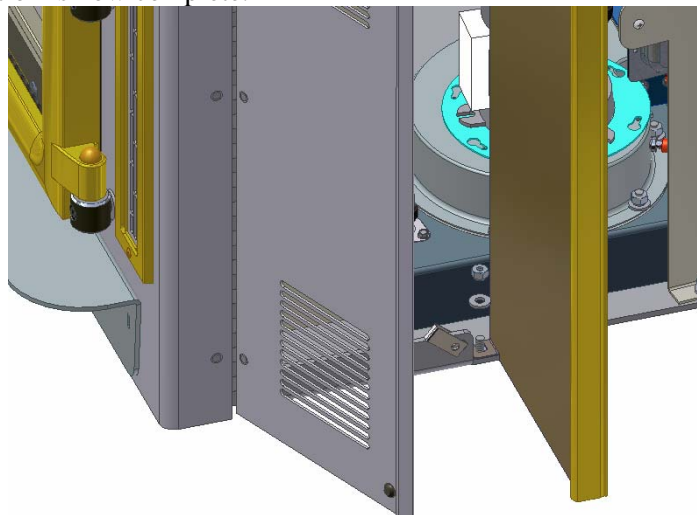

FIGURE 11b: CROSSFIRE SHROUD (right bottom view)
3. Remove the two washers and $\frac{1}{4}$ -20 nuts from the right shroud panel (right is defined as the right side when FACING the Crossfire) as shown in FIGURE 1 and FIGURE 2. Position the right shroud panel onto the studs. One stud is located on the right side of the hopper, FIGURE 1, and one stud is located at the base of the right Crossfire side door, FIGURE 2. The right shroud panel (top edge) should overlap the top shroud panel on the **FRONT** side of the stove. Secure the right shroud panel in place by installing the two washers and two $\frac{1}{4}$ -20 nuts that were previously removed. Make final adjustments of the right shroud panel and then tight the two $\frac{1}{4}$ -20 nuts as shown in Figure 11b. Repeat this process to install the left shroud panel. Shroud panel installation is now complete.